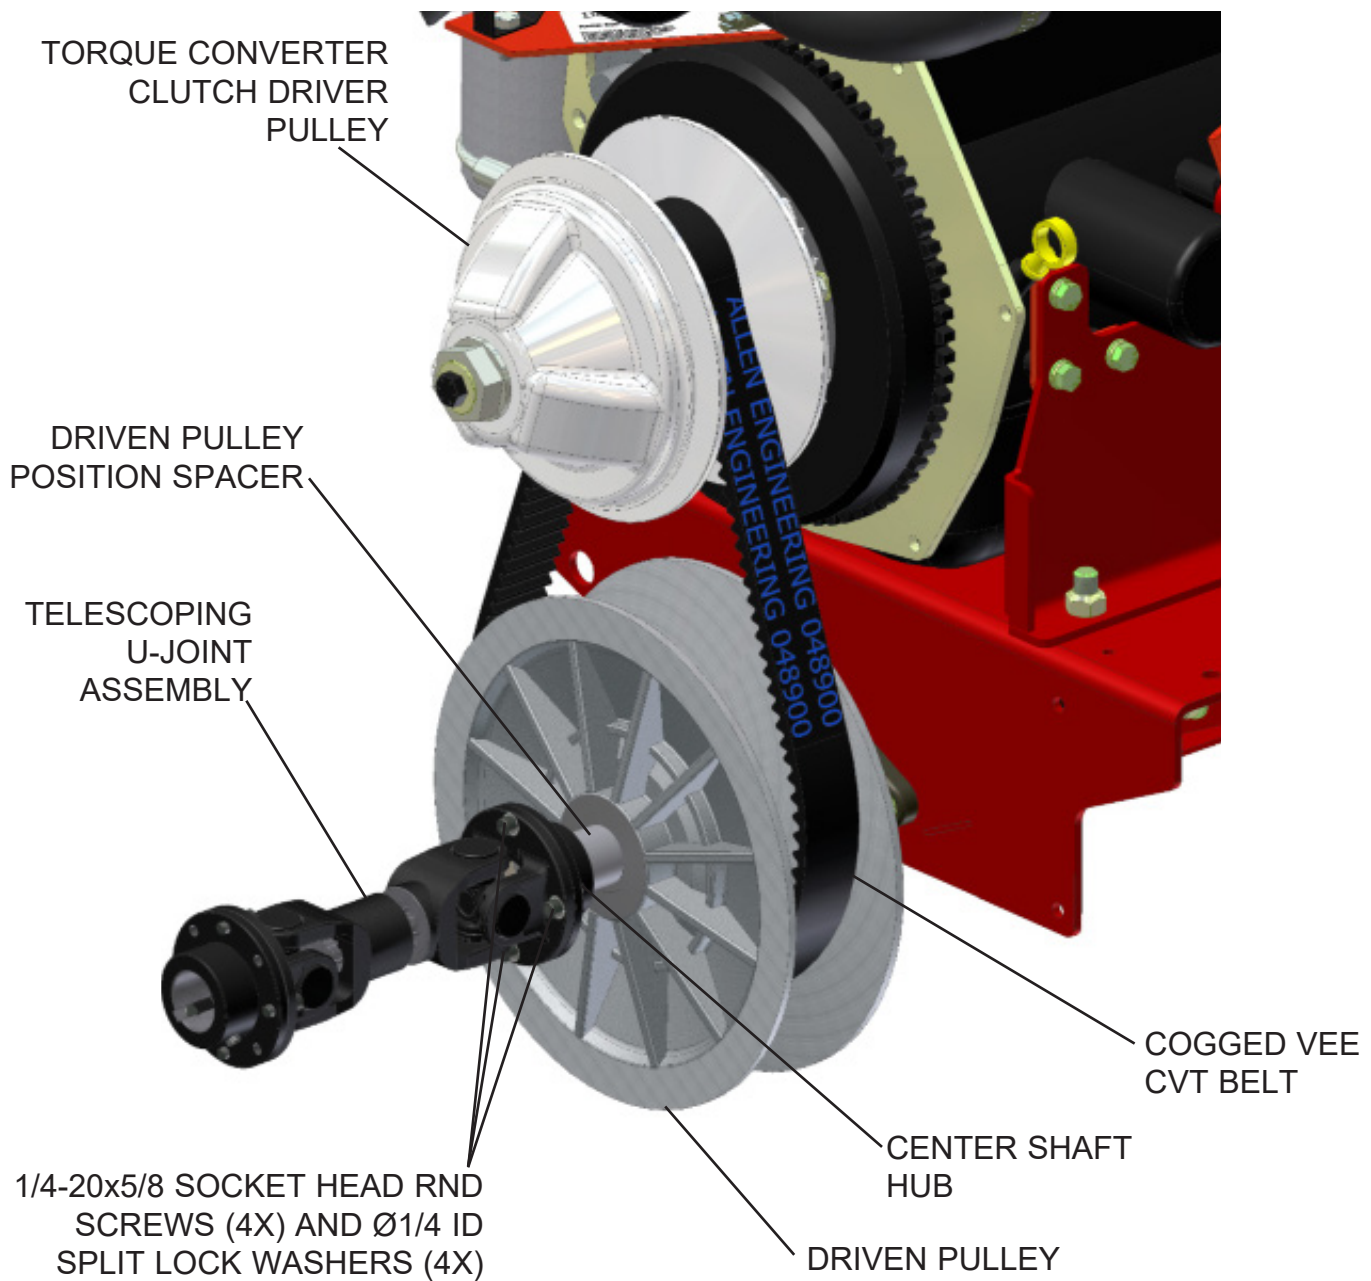

FIGURE 3.3.2
- 4) Disconnect and remove u-joint assembly by removing (4X) 1/4-20x3/4 socket head round screws and 1/4 split lock washers on the driveshaft hub closest to driven pulley. Refer to Figure 3.3.2.